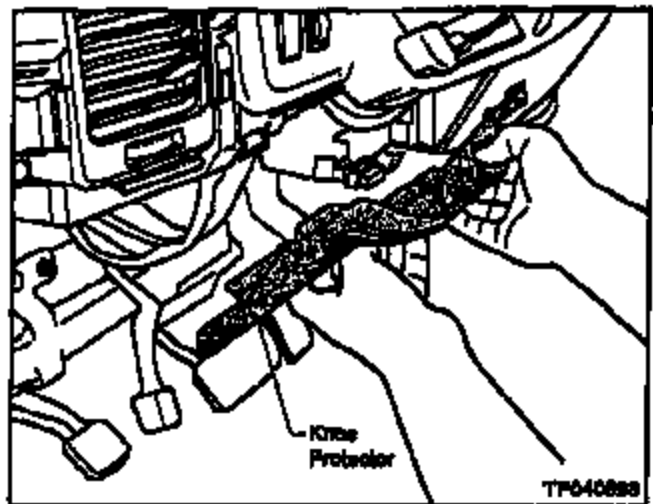

Figure 3
3. Remove four Bolts and remove the metal Knee Protector (see Figure 3).